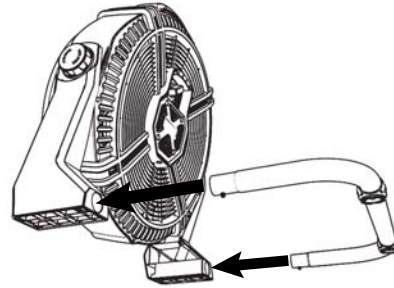

Figure 2
1. Press down on the spring activated button and insert the *Metallic Base Support (1)* into the cavities located in the back of the *Floor Bases (2)* while maintaining the buttons down (Figure 2).